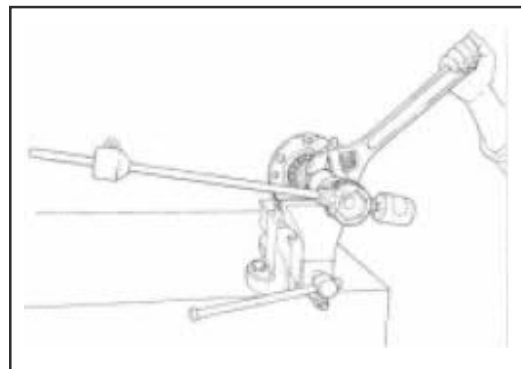

Fig. 13
7. Fit the preload gauge, SER / 064 to the pinion and tighten the locking ring to give a preload reading of 2 - 2.5 Nm (18 -22 lbf inch). (Fig.13).